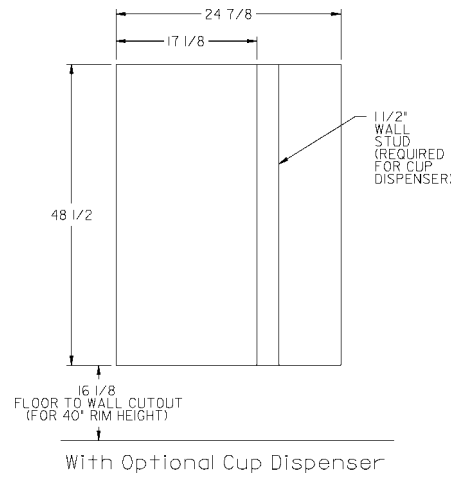
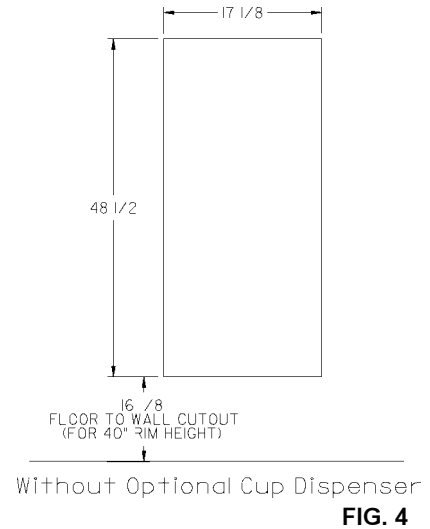

FIG. 3
FIG. 4
1. Cut a wall opening 24 7/8 W x 48 1/2 H (with cup dispenser), 17 1/8 W x 48 1/2 H (without cup dispenser). The bottom edge of the opening should be approx. 16 1/8" above the floor (See Fig. 3 with cup dispenser), (See Fig. 4 without cup dispenser). (check local codes for height requirement).
2. After opening is completed, reinforce opening on all sides so that it may adequately support watercooler which weighs up to 150 lbs. and also provides a means of securing Wall Frame in place. (Install a wall stud indicated on Fig. 3 (with cup dispenser). NOTE: Building construction must allow for adequate airflow on both sides and top of chiller unit. 4" minimum required).